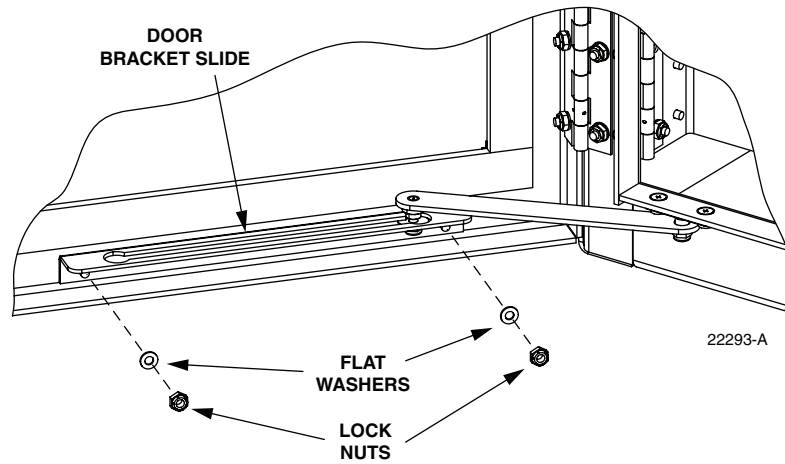

Figure 24. Door Linkage Hardware
2. Use a 3/8-inch nut driver to remove the locking nuts and washers that secure the door bracket slide to the bottom edge of the door as shown in Figure 24. Save the nuts and washers for reuse.